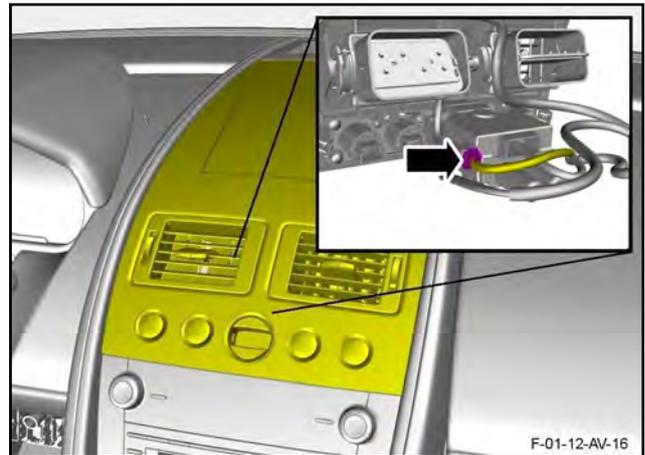

Figure 28
- 37. Disconnect the electrical connector from the ignition switch module (refer to Figure 28).